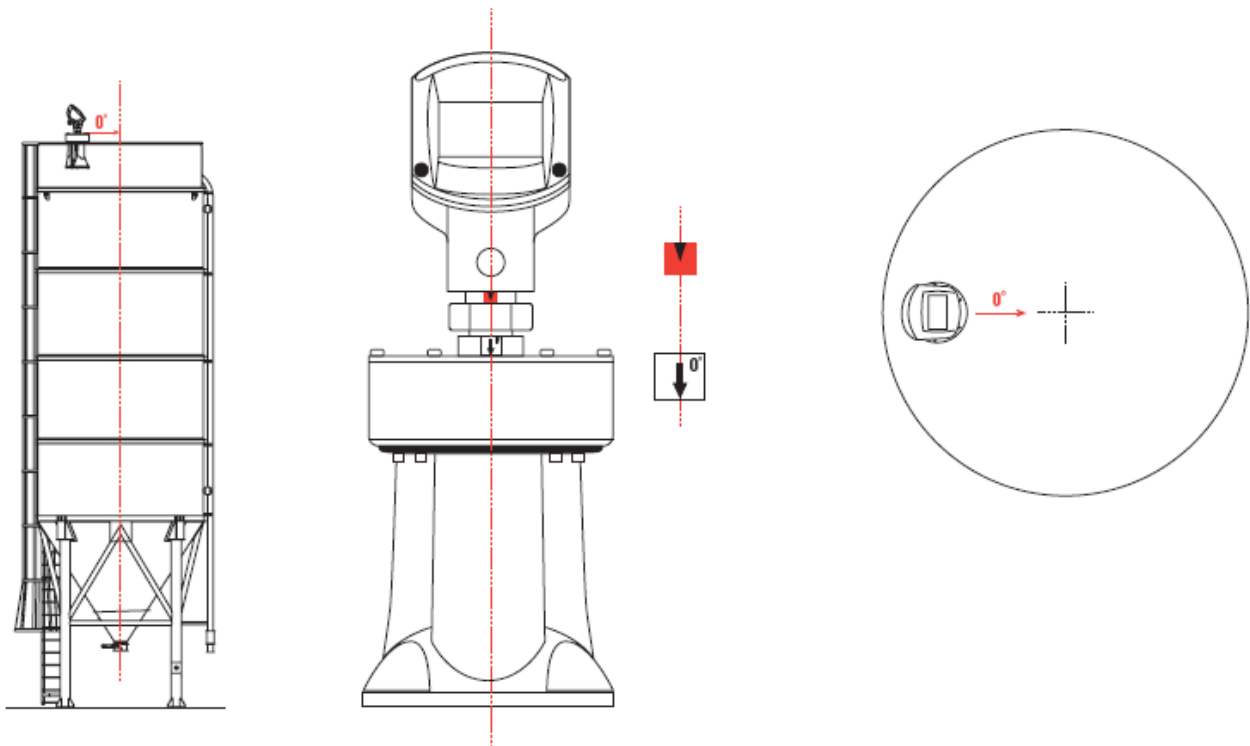

Figure 21 Mounting Direction
- ⦿ The mounting direction is indicated by a sticker labeled 0^0 on the unit (see Figure 21).